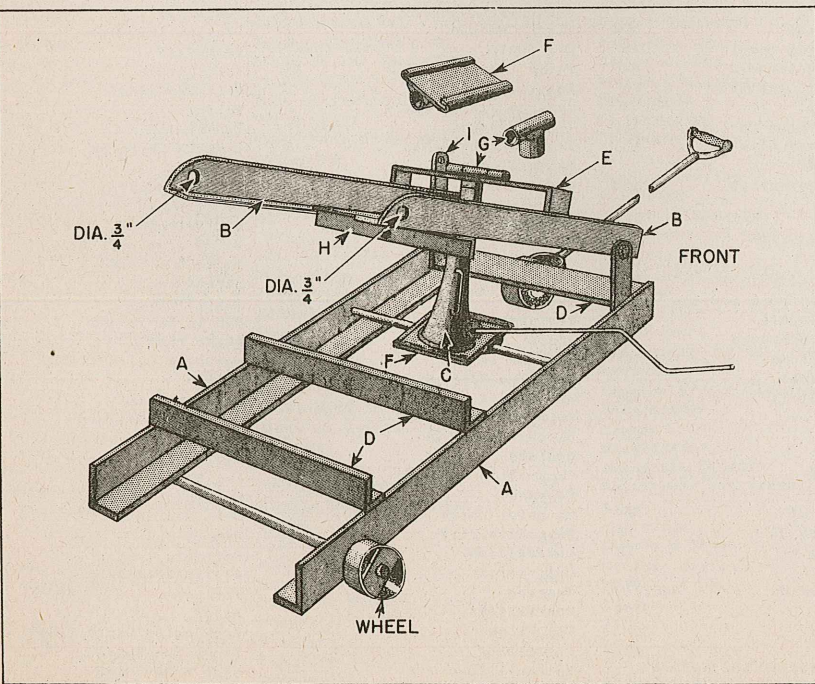

Figure 4
FIGURE 4 consists of two 5/8" iron rods (A) curved to fit bottom of Banjo type transfer case used on late GMC 2-1/2 ton trucks. These are welded to pipe (B) of 1" inside diameter and 10" long. C, an iron strap, is welded upright in the same manner and with same measurements as the one in Figure 3.
At the other end, the turnbuckle is attached to Y (this arm is the same as C in Figures 4 and 5). With this turnbuckle, the points X and Y must be adjusted so that they form a parallelogram. If this adjustment is made, the rods C which hold the transfer case will always remain level, no matter how high the case is raised, or lowered. You can easily see how this works in the small insets on Figure 6.